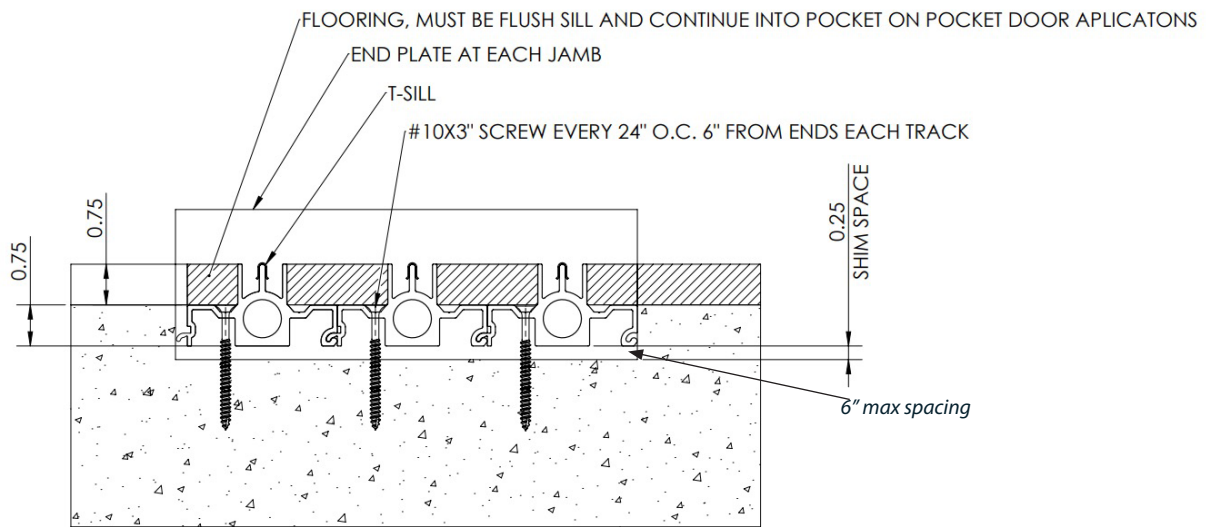

Figure 2
- Sill – holes should be drilled 6" from each end and every 24" on center per track. (See Figure 2).